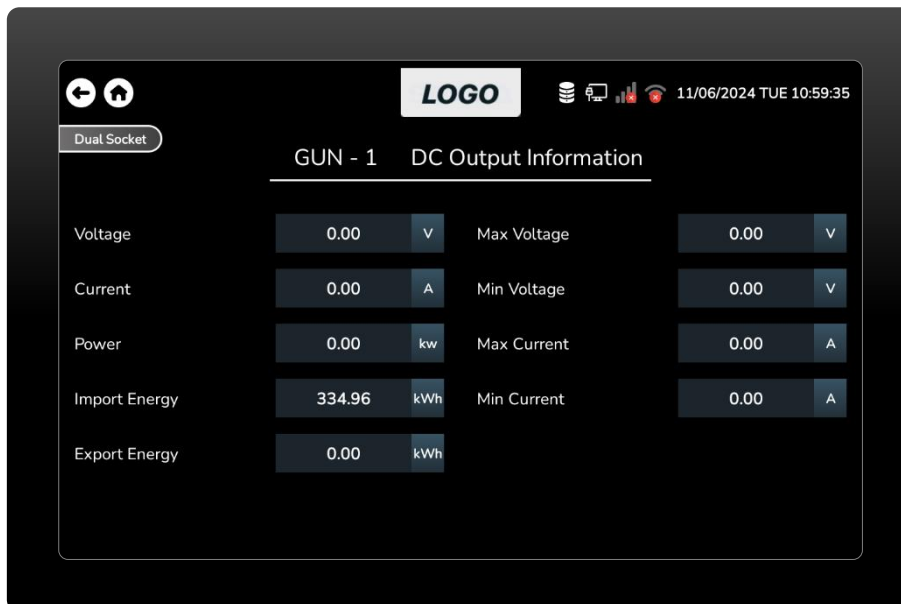

Figure 67 DC Output Information.
- This is the DC meter information screen, where the user can view information such as voltage, maximum voltage, minimum voltage, currents, maximum current, minimum current, power, import energy, and export energy. (Figure 67)